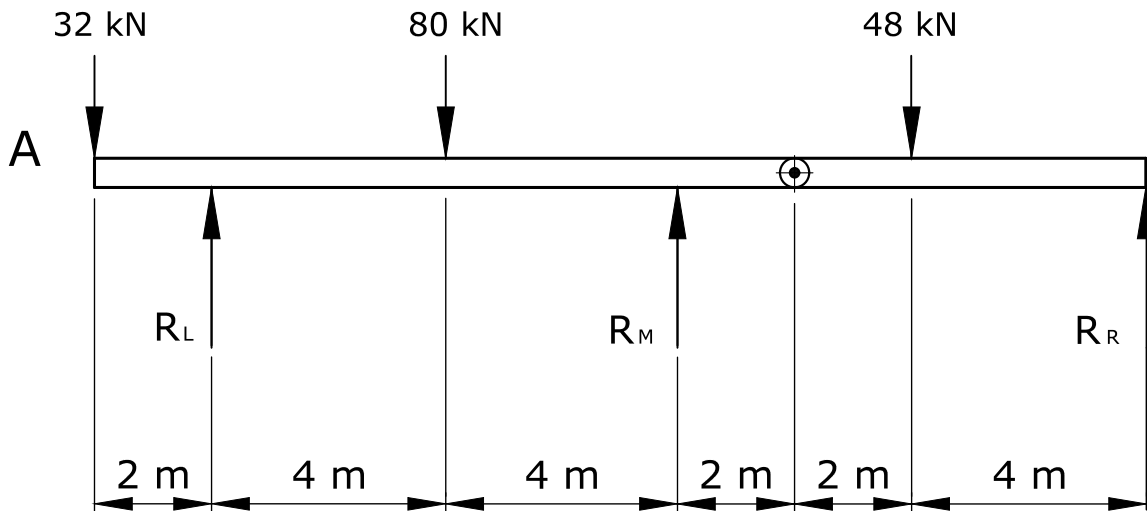

Figure 5
Figure 5 describes a beam consisting of two parts which are hinged together. The hinged beam rests on three simple supports. You are requested to:
- a. draw Figure 5 and; (1)
- i. the bending moment diagram; (6)
- ii. the values of  $R_L$ ,  $R_M$  and  $R_R$ ; (3)
- iii. the magnitude, nature and position of the greatest bending moment; (3)
- iv. the positions along the beam where the bending moment is zero; (1)
- v. the shear force diagram; (5)
- vi. the magnitude of the shear force at the hinge. (1)